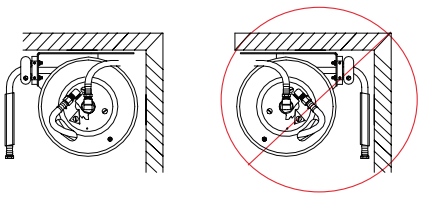

Figure 2: Correct and Incorrect Under Counter Mounting
- See Figure 2 for proper hose reel orientation